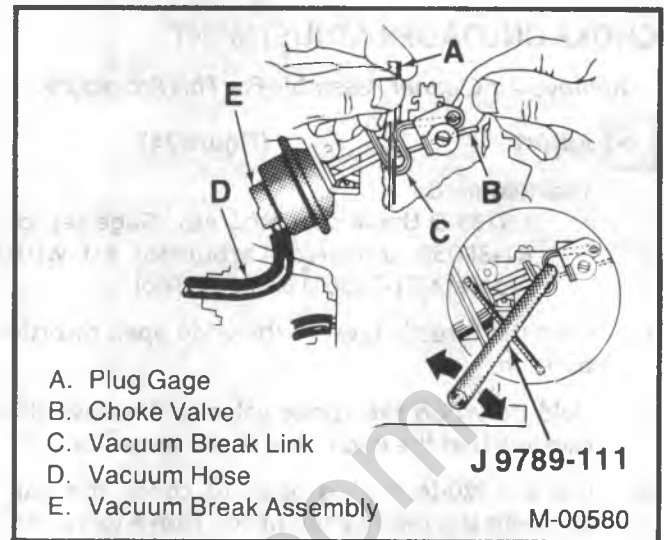

Figure 23 - Vacuum Break Adjustment
5. If an adjustment is needed, use J 9789-111 or BT-3006M to bend the vacuum break link (at the point shown in the inset of Figure 23).